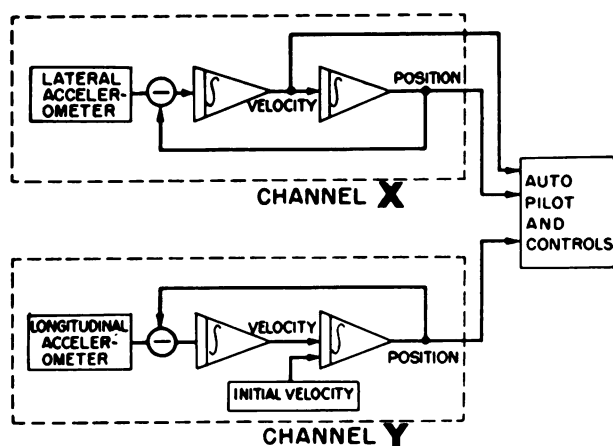

Figure 3N.
66. Which of the units in the system shown in figure 3N will compute the rate at which the missile heading moves away from the desired flight course?
67. Which of the units shown in figure 3N will perform the computations necessary to tell the missile how far along the flight path it has traveled?